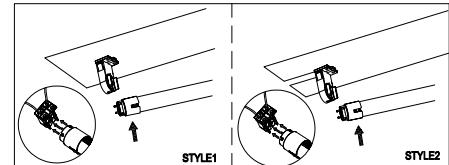

Figure 6
**STEP 6:** Insert the lamp, make sure the strips on the socket slide into the endcap slot correctly. See Figure 6.